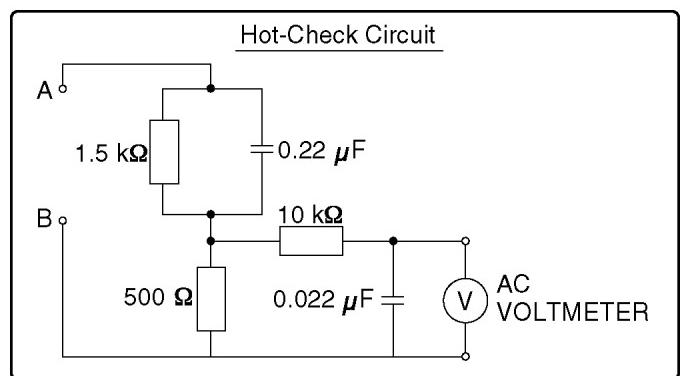

Figure 1
- Connect "A" to exposed metallic part on the set. And connect "B" to a good earth ground, as shown in Figure 1.